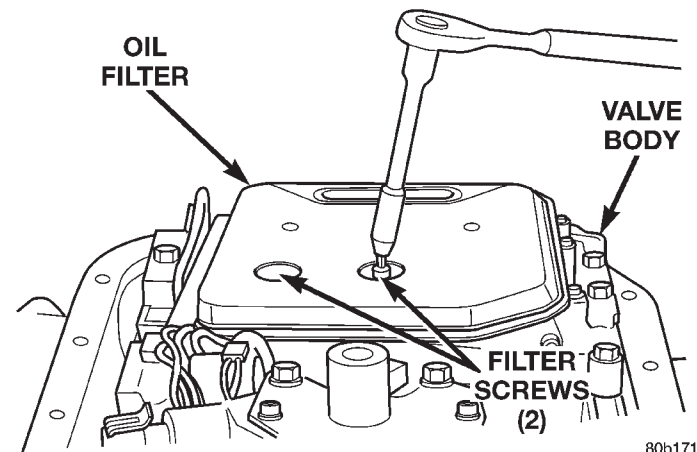

Fig. 97 Oil Filter Removal
(1) Clean transmission exterior with steam gun or with solvent. Wear eye protection during cleaning operations.
(2) Place transmission in a vertical position.
(3) Measure and record input shaft end play readings.
(4) Remove shift and throttle levers from valve body manual lever shaft.
(5) Place transmission in horizontal position.
(6) Remove transmission oil pan and gasket.
(7) Remove filter from valve body (Fig. 97). Keep filter screws separate from other valve body screws. Filter screws are longer and should be kept with filter.